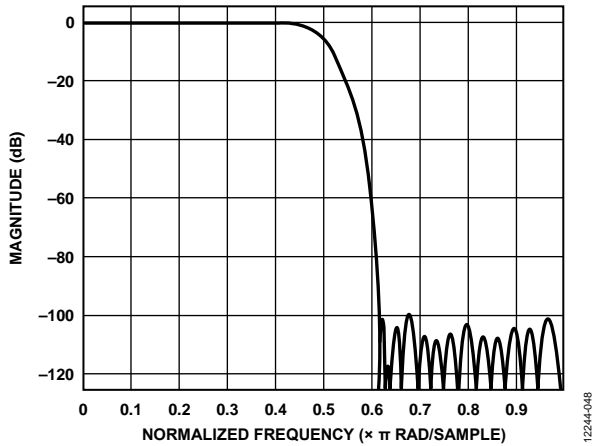

Figure 63. HB1 Filter Response
The decimate-by-2, half-band (HB), low-pass FIR filter uses a 55-tap, symmetrical, fixed coefficient filter implementation, optimized for low power consumption. The HB filter is enabled when the DDC is selected. Table 10 and Figure 63 show the coefficients and response of the HB1 filter.